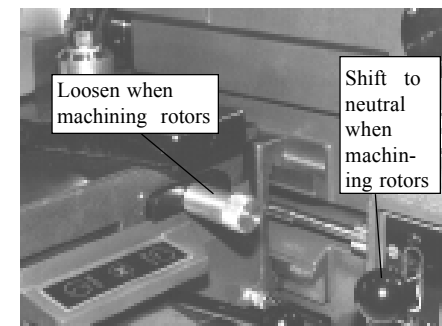

Figure 33
7. **IMPORTANT:** In all cases when machining rotors, be sure the adjusting knob that locks the cross slide is always loose. If tightened, it will create unnecessary wear and strain on the drive train. **See Figure 33.**